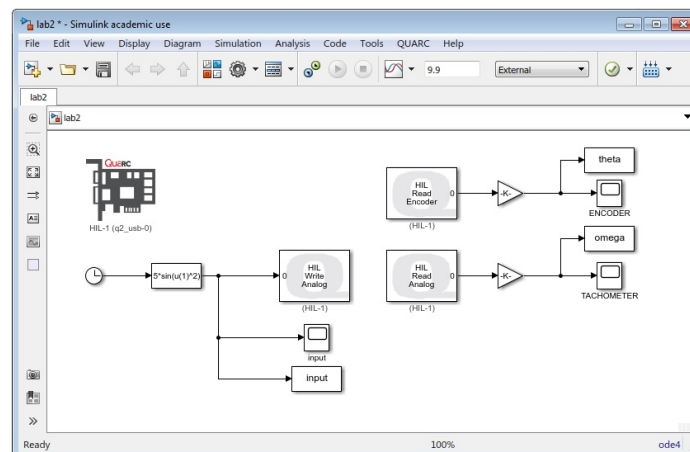

Figure 2.3: Simulink model for the implementation of the signal $5 \sin(t^2)$
2. Follow Figure 2.3 and build a Simulink model to implement this signal. *Alternatively, you can modify your model from lab 1.* The Fcn block can be found in Simulink in